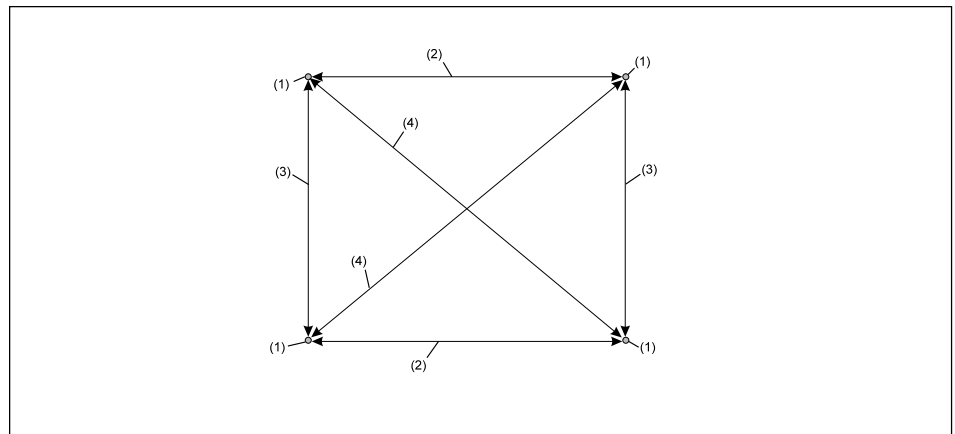

Figure 27. Place Washer on Points
- a. Place a 3/8" black flat washer on each of the threaded studs. Refer to *Figure 27*.